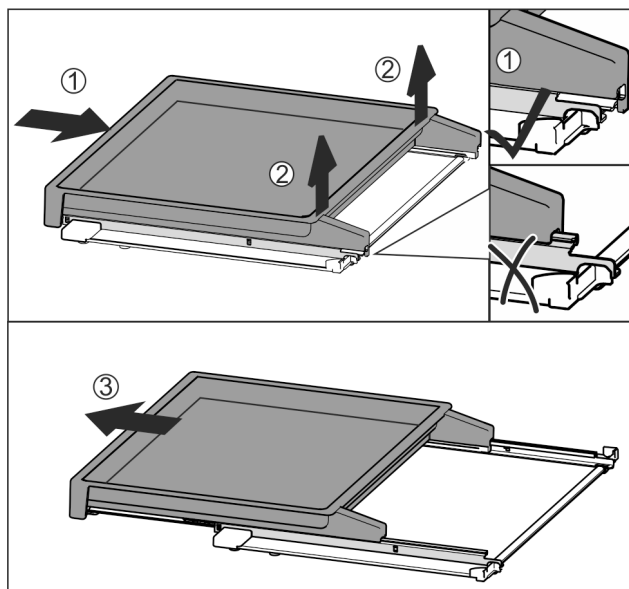

Fig. 43
- Slide the pull-out board all the way in Fig. 43 (1).
- Release the clips at the back Fig. 43 (2).
- Remove the pull-out board from the front Fig. 43 (3).